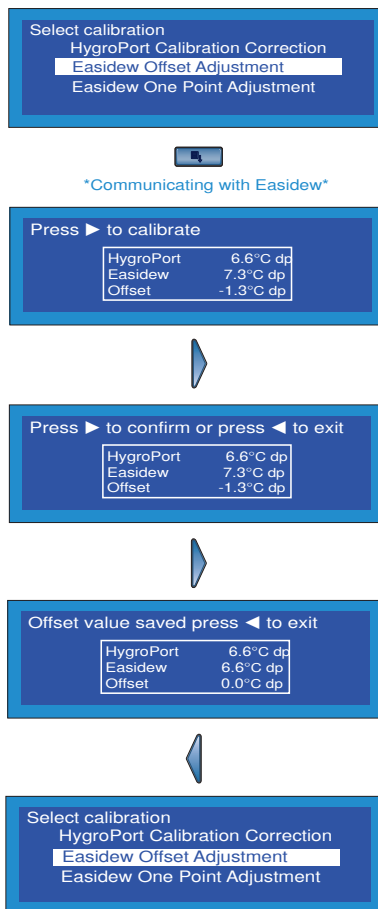

Figure 6.5 - Easidew offset adjustment
6.3.2 Easidew offset adjustment (Figure 6.5)
The offset adjustment screen is now displayed which reports the size of the offset (-1.3°C) between the readings of the HygroPort and the external transmitter e.g. as shown in Figure 6.5.